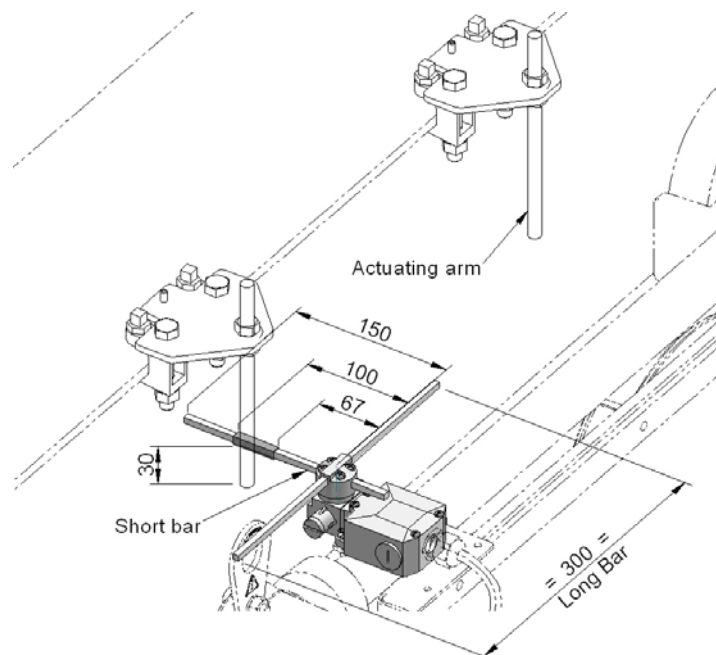

Figure 18 – Setting the Traverse Limit
To ensure reliable operation of the switch, the actuating arm should be positioned to strike the limit bar as shown in Figure 18. The arm should be positioned so that the switch rotates through 90° each time it passes an arm. The short bar on the switch occupies the mid (0°) position when the switch is between the two actuating arms. The bar on the switch will then rotate through 90° clockwise or anti-clockwise each time it passes an actuating arm.
**Failure to set the switch and actuating arms as shown in Figure 18 will result in permanent damage to the switch.**
(See Figure 18 for setting dimensions)